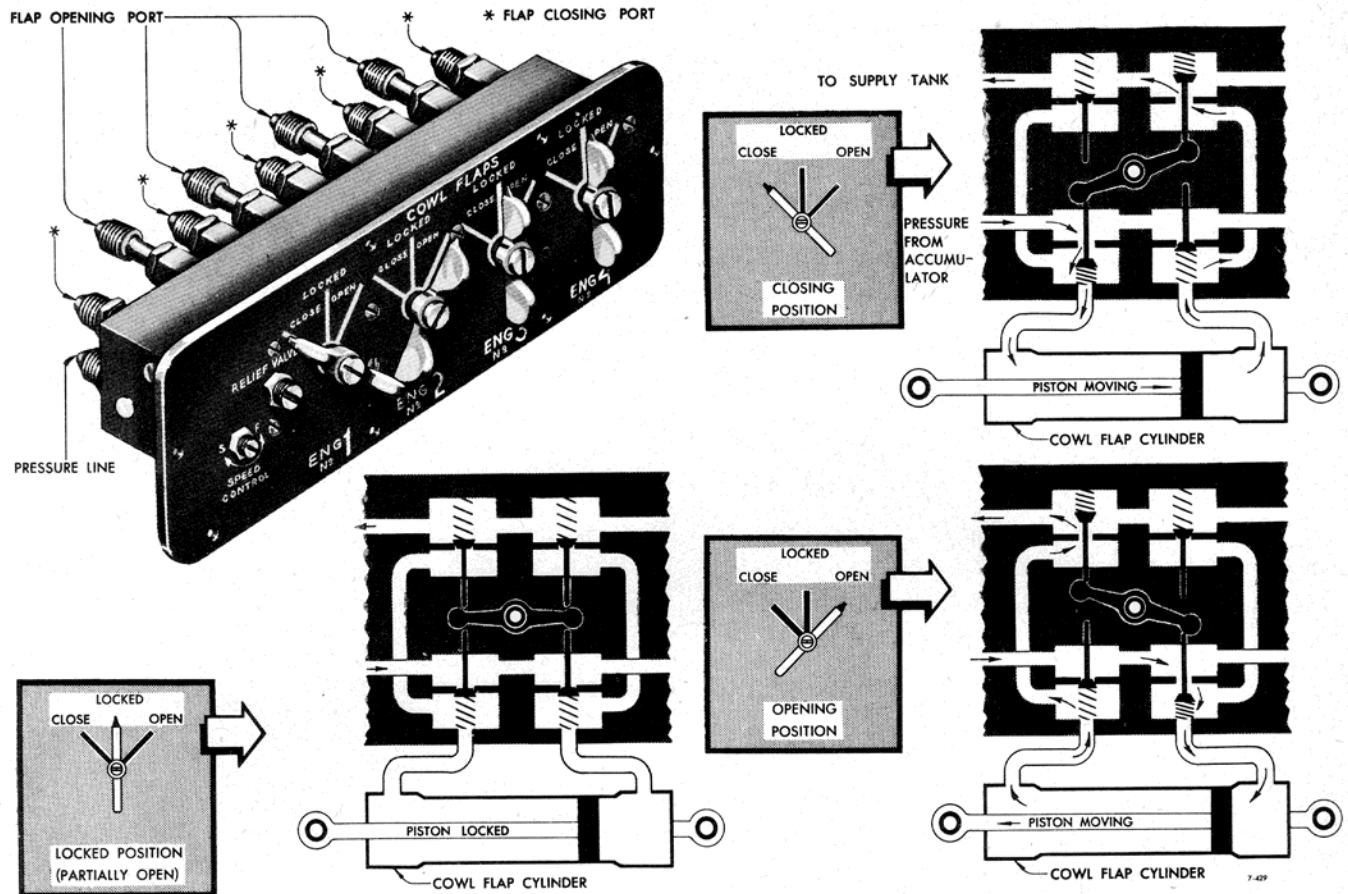

Figure 298—Cowl Flap Control Valve (Schematic)
b. Check for leakage and flow as per the table below. (See figure 298.)